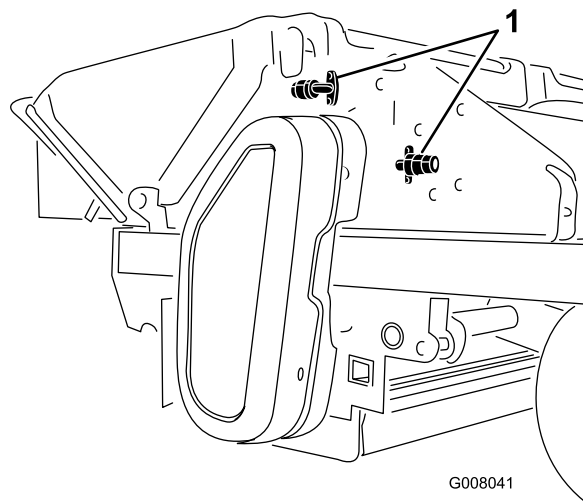

Figure 36
1. When operation has been completed, use the washout ports (Figure 36) or spray the chopper area.